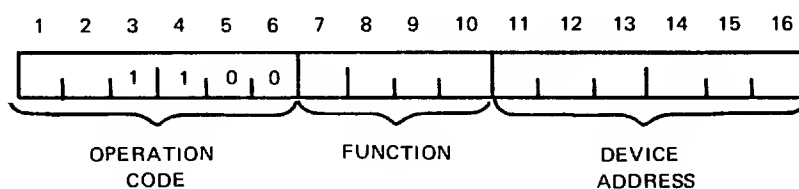

Figure 2-7. Input/Output Instruction
*Input/Output.*—Figure 2-7 shows the word format for input/output instructions. The operation code specifies the desired function from the point of view of the computer. The function code further defines the desired function from the point of view of the device. The controller address specifies the I/O option which is to perform the function.